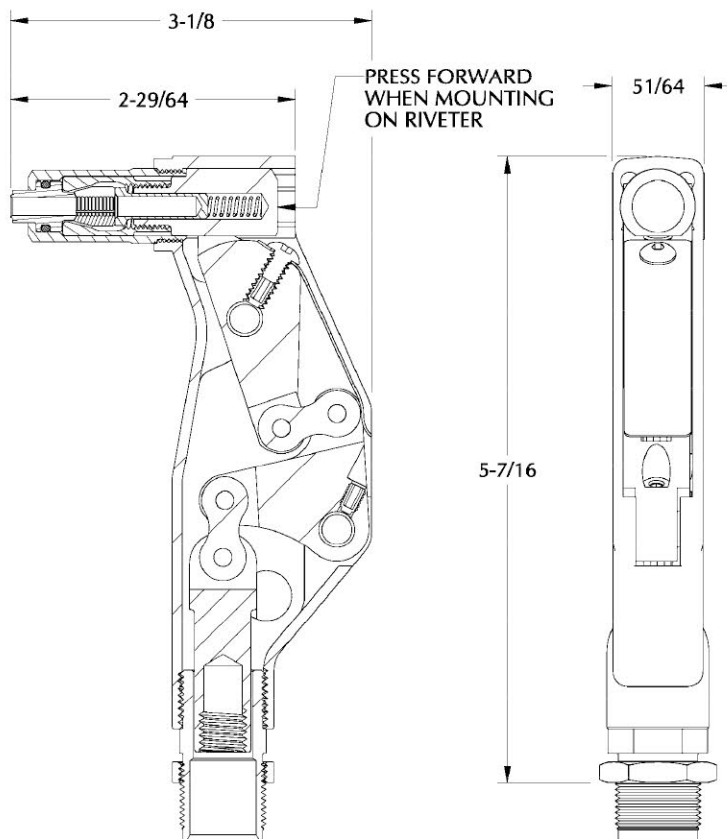

Figure 1
- Push the collet bolt assembly forward (see Figure 1) before mounting.
- While holding collet bolt in a forward position, engage 1 or 2 threads of drawbolt (18) onto riveter head piston before threading adapter fitting (19) into end of riveter head cylinder; turn clockwise until snug.
- Rotate pulling head to desired position and tighten jam nut (20) to secure pulling head orientation.